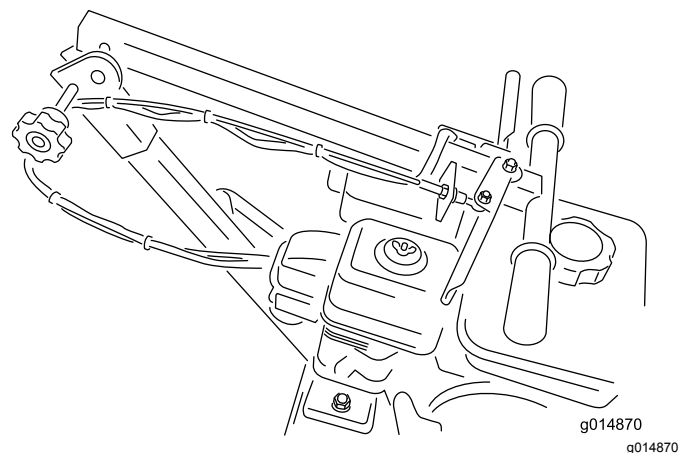

Figure 5
2. Fold the handle down toward the machine and screw the knob back onto the handle (Figure 5).